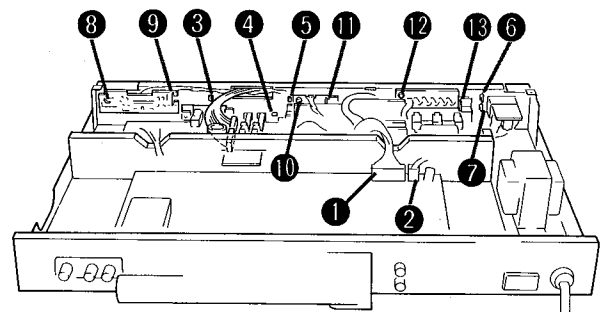

Fig. 7
2. Detach the connector 1 and 2 in Fig. 7.
4. Remove actuators 3 to 5 in Fig. 7 and then remove metal fixtures 6 and 7. Remove the plate assembly.
3. Level the metal fixture 8 in Fig. 7 and then remove PCB-5 from the metal fixture 9 by pulling out it.
3. Remove the plastic rivet 10 in Fig. 7 and then remove PCB-6 from the metal fixture 11.
3. Remove the plastic rivet 12 in Fig. 7 and then pull out PCB-7 from the metal fixture 13.